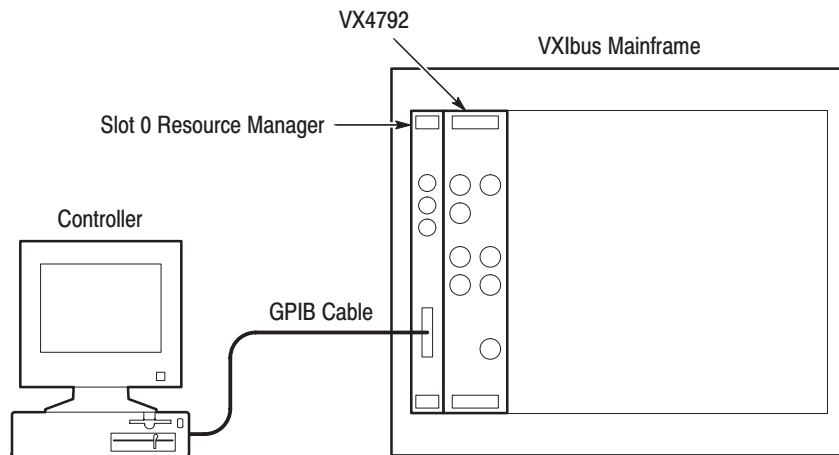

Figure F-2: Basic System Configuration
Before you perform the performance verification procedures, you must complete the following tasks to configure your system. Figure F-2 shows the basic system configuration.
6. Install the GPIB cable between the computer and Slot 0 Resource Manager. Your system should match the configuration shown in Figure F-2.